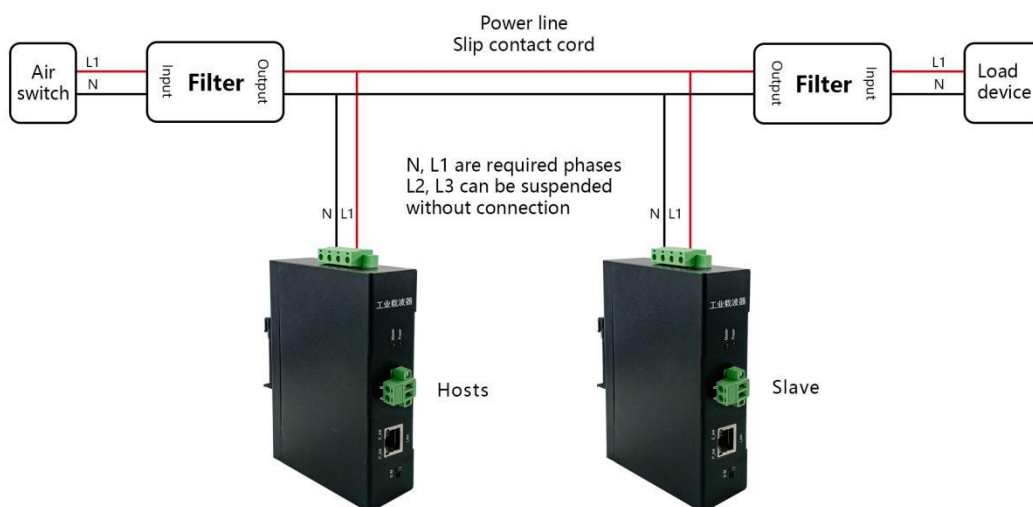

Figure 1
**1、 Single-phase/DC: N,L1 of the carrier is connected in parallel to the power line, no distinction is made between phase sequence or positive and negative poles. The wiring schematic is shown in figure 1.**